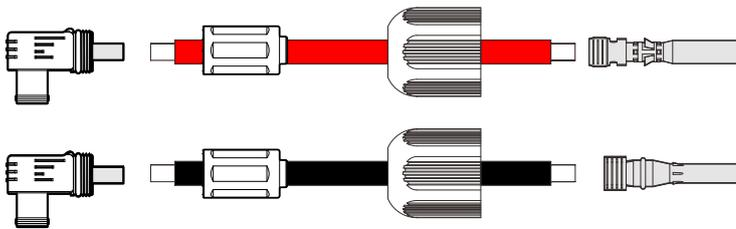

Figure3-35 Crimp the metal terminals
- Step 2 Loosen the lock nuts of the positive and negative energy storage connectors, draw the battery positive and negative wires through the corresponding lock nuts, and crimp the battery positive wire and negative wire to the positive and negative metal terminals respectively. Loosen the lock nuts of the positive and negative battery connectors, draw the battery positive and negative wires through the corresponding lock nuts, and crimp the battery positive wire and negative wire to the metal terminals of the positive and negative connectors respectively, as shown in Figure3-35.